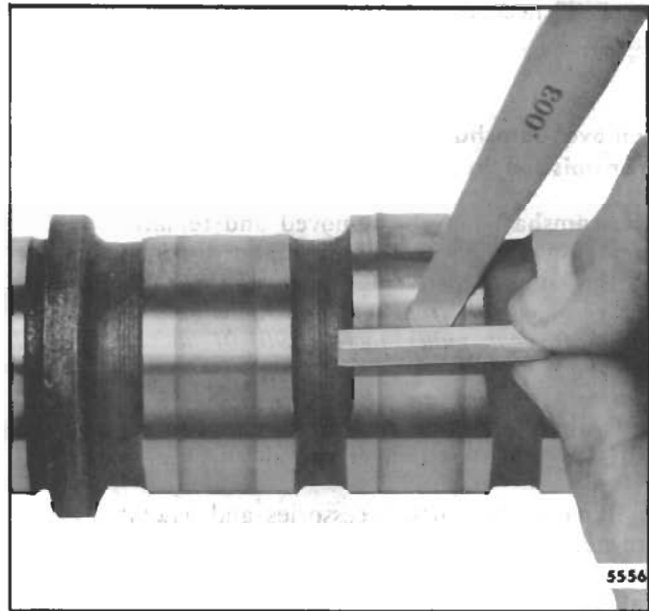

Fig. 8 - Checking Cam Lobe Wear
1. With a tapered leaf set of feeler gages ($.0015$ " - $.010$ ") and a piece of square hard material ($1/8$ " x $3/8$ " x 1 "), measure the flat on the injector rise side of the cam lobes (Fig. 8).